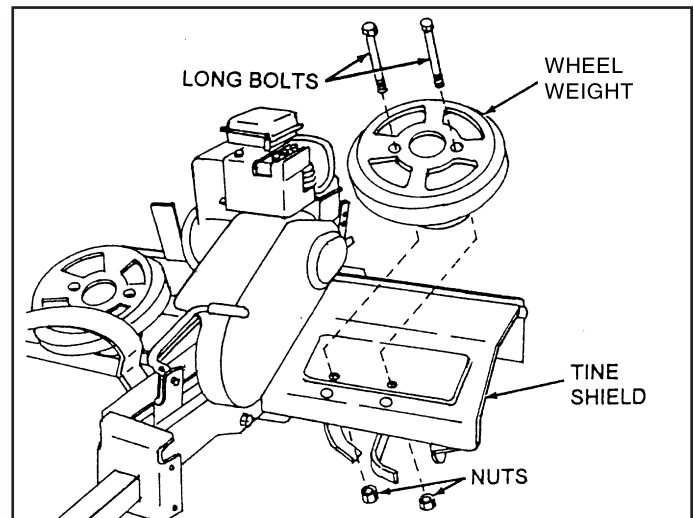

FIGURE 4
- Remove two Hex Bolts and Nuts from each Tine Shield, located approximately 3-1/2" from front edge. See figure 4.
- Place (Wheel) Weights on Tine Shield and secure with long Bolts and Nuts furnished with Weights. See figure 4.